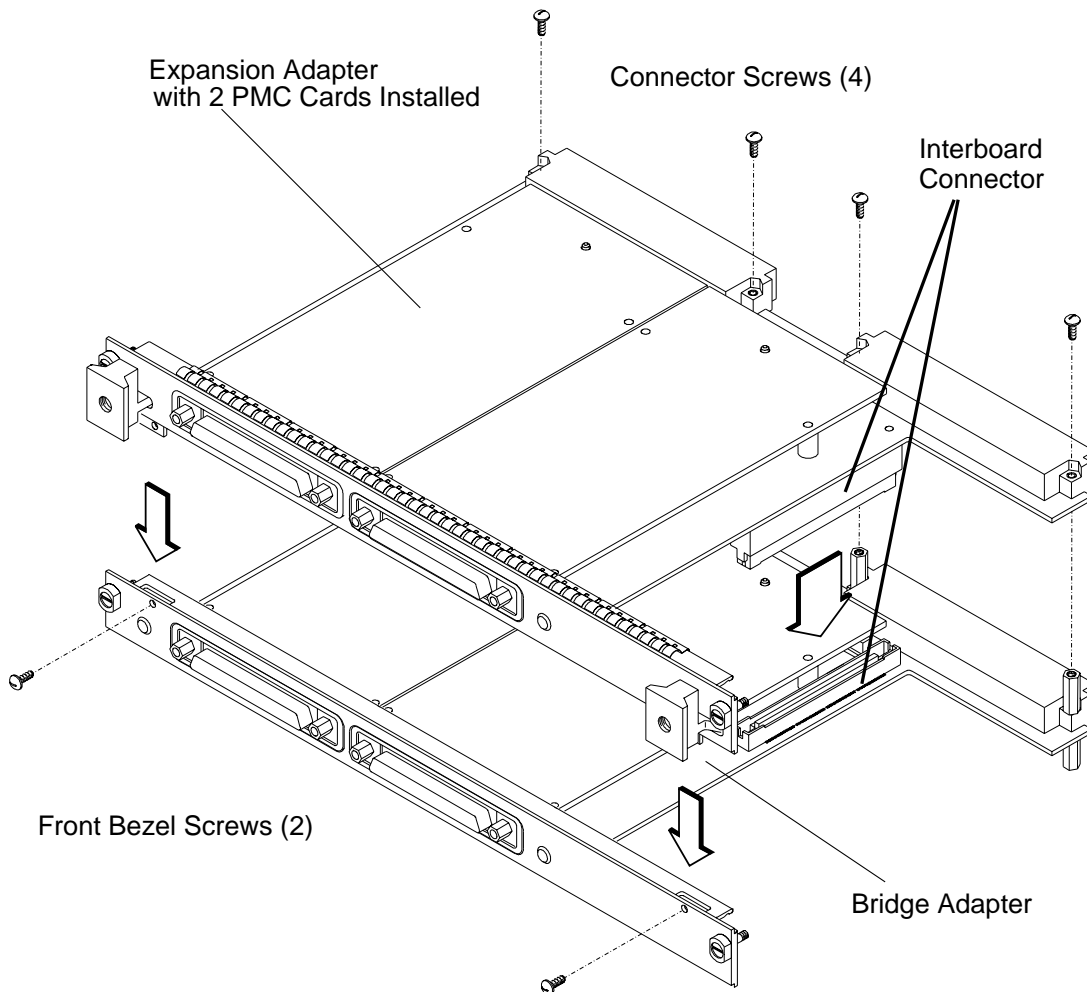

Figure 2-9 Installing the Expansion Adapter onto the Bridge Adapter
- 9 Making sure that the connector and bezels are properly aligned, install the PMC expansion adapter onto the bridge adapter, as shown in Figure 2-9. Ensure that the interboard connector seats properly by applying pressure to the top of the expansion board and to the bottom of the bridge board. There are two screws that secure the front bezel and four screws to secure the VMEbus connectors.